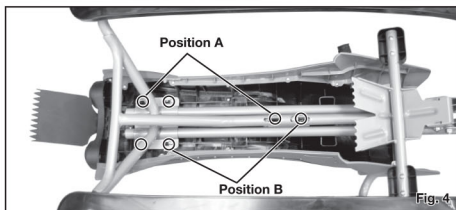

Fig.4
4. The Seat② can be mounted in one of two positions (A and B) depending on the size of the rider. To begin your seat assembly, place the seat upside down with the upside down frame on top of it as shown.
5. Select your seat position by aligning the seat assembly points with the desired assembly slots on the Frame③. (See Fig. 4)